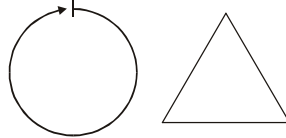

Figure 4-9
2. Figure 4-9 shows two simple courses. Write a program that will make your Boe-Bot navigate along each figure. Assume straight line distances (including the diameter of the circle) to be either 1 yd or 1 m.